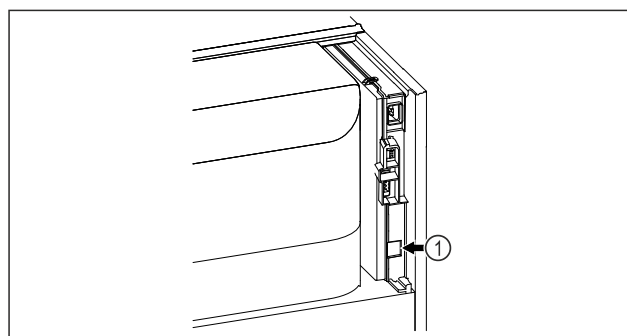

Fig. 59
- ☐ SmartModule Fig. 59 (1) is in use.